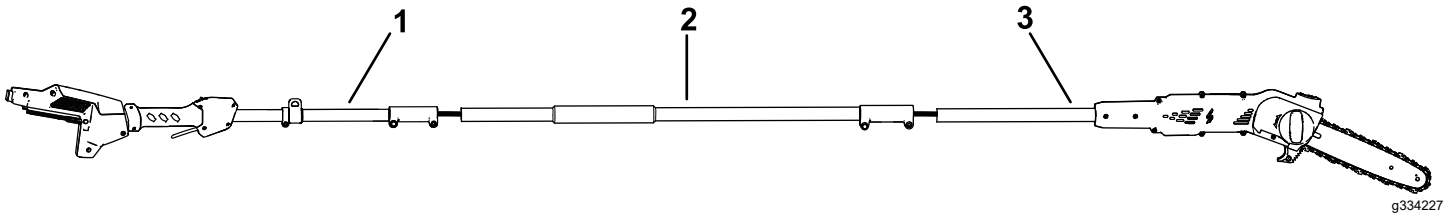

Figure 4
1. Unfold the sections of the handle (Figure 4).